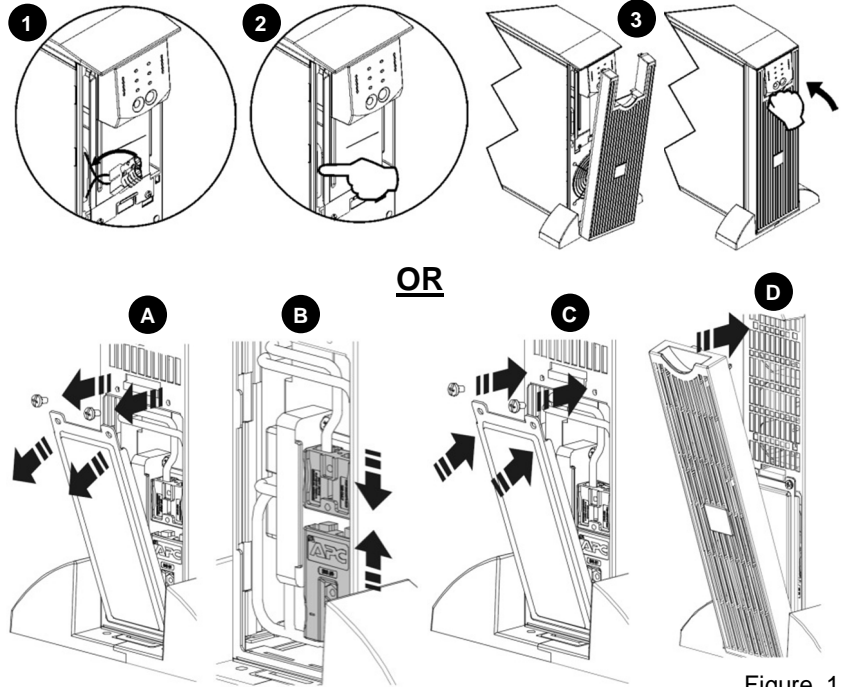

Figure 1
(Figure 1):
#### Procedure for Figure 1: (1, 2, 3)
#### Procedure for Figure 1: (A)